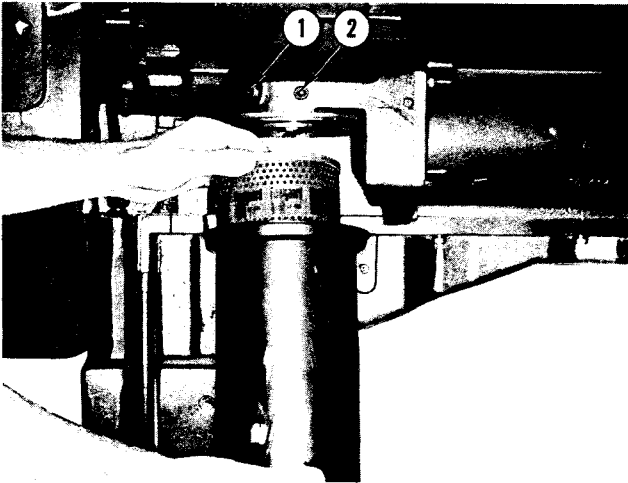

Fig. 2-11 (V51908) Removing lubricating oil filter element V-903
d. If element is clogged, the change period should be shortened. Oil pressure drop reading across filter is the best way to determine change periods. Pressure drop from inlet (1, Fig. 2-11) to outlet side (2) of filter should not exceed 10 psi [0.7 kg/sq cm] with 140 deg. F [60 deg. C] oil temperature and engine at high-idle speed.